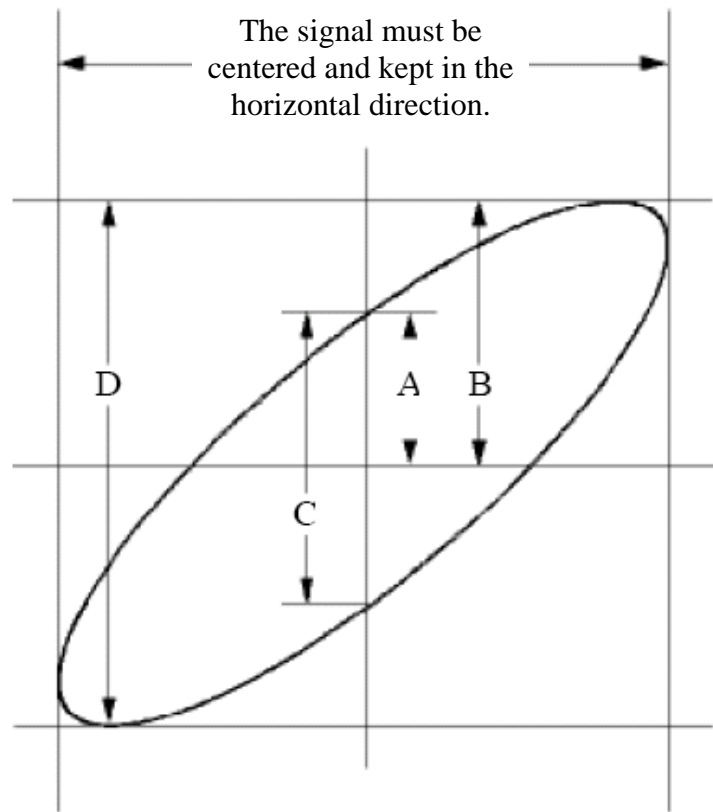

Figure 7-6 Lissajous Graph
- (8) Turn the **VOLTS/DIV** and **VERTICAL POSITION** knobs, optimizing the waveform.
- (9) With the elliptical oscillogram method adopted, observe and calculate the phase difference (see *Figure 7-6*).